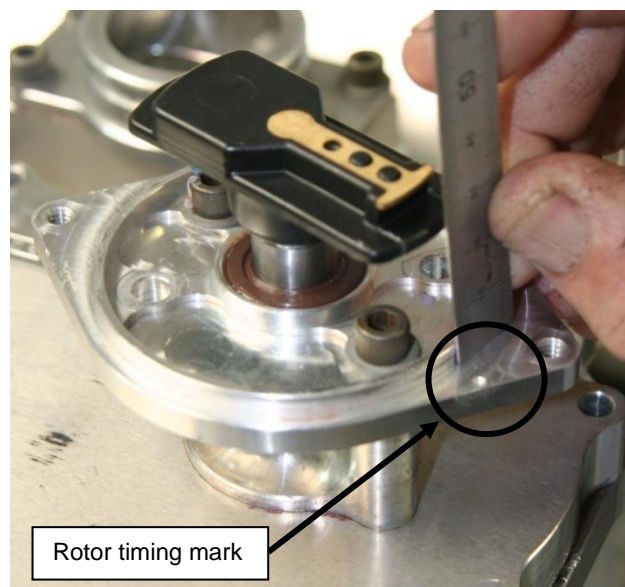

Figure 176 – Setting Distributors, Checking Rotor Position
- In this engine position manually align both distributor rotors to point to the timing mark engraved on the distributor mount plate – use a ruler to check that they are nearly parallel as shown in Figure 176. They will not be exactly parallel but they should be close – and provided the timing mark lines up with the tip of the cap it will work properly. Carefully lower and mesh the distributor gears with the outer camshaft gear.